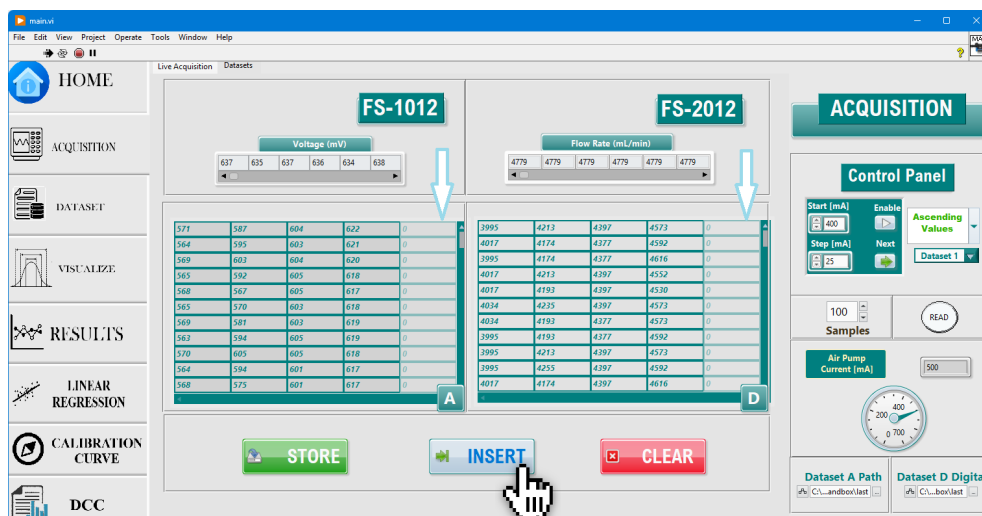

Figure 31: Saving acquisitions in temporary dataset tables
Step 5) Select the *ACQUISITION* tab on the front panel. Locate the the inner tab selector displayed on the Tab page. Select the *Datasets* page. Locate the *INSERT* button at the bottom of the front panel, illustrated in Figure 31. Press the button to insert the acquired samples in the first available column in the *Acquisition Dataset* tables.